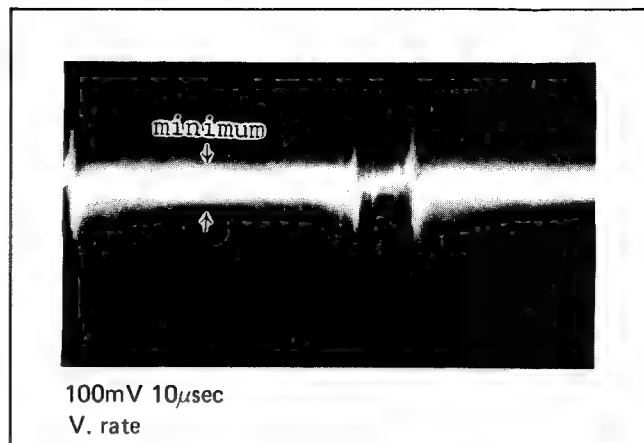

Fig. 33 Waveform of TP317
6. Alternately adjust VR310 and VR311 so that the signal level is minimized as shown in Fig. 33.